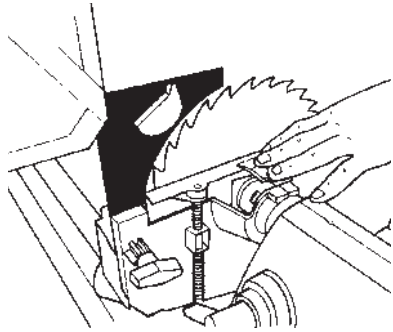
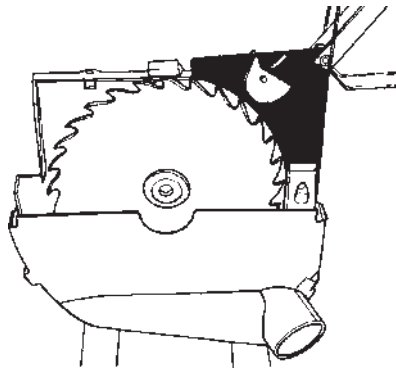
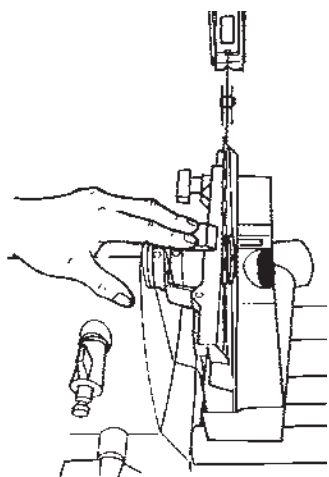

Figure B-109
Figure B-110
Figure B-111
83. Make sure the riving knife is fully seated between the guard and the lock plate, as in Figure B-109. The curved portion of the riving knife should be very close to the saw blade teeth (about 1/8"), as illustrated in Figure B-110. Tighten the guard lock knob (210). Look to see if the riving knife is centered with the saw blade, as shown in Figure B-111.